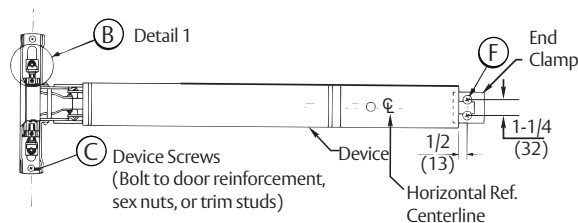

Figure 15
2. Seat device in place. (Figure 15-B)
8. Prepare end clamp holes and mount end clamp using two (2) 1/4-20 PRHMS or 3/8" (10) SNB. (Figure 15-F)